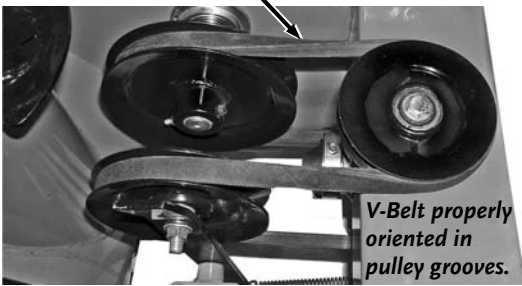

Figure 14
- Check the Belt for proper orientation and wear after the first four hours of operation (**Figure 14**).